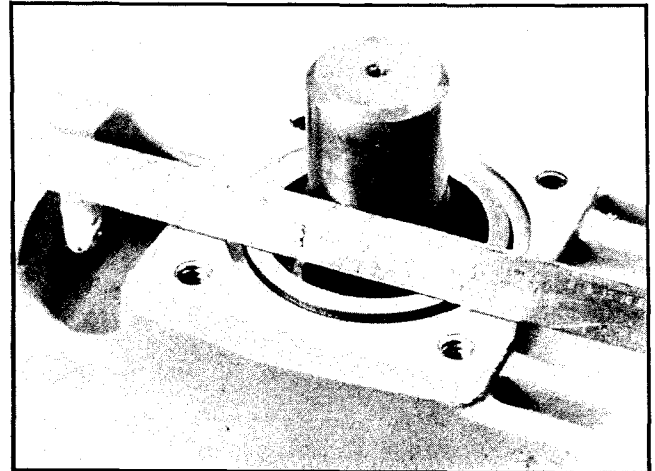

Figure 17. Pintle bearing spacer height with respect to pintle face.
b. Install bearing spacer (34) at the short pintle end.
c. Install "O" ring (33) against spacer (34) into the groove, then install a 0.010 inch shim (32) under pintle cover screws (30) and torque to 175-185 lbf. ft. (237-251 N. m). Early designs used a screw and washer arrangement. These should be torqued to 115-125 lbf. ft. (156-169 N. m).
d. Set housing (8) on its side so the long pintle is up. Install bearing spacer (29) fully in against the bearing race. Install the pintle cover (26), (without shims and "O" ring), then thread four pintle screws (25) through the cover into the housing. Cross torque the screws to 2 lbf. inches while moving the yoke back and forth to align the bearings and races, (keep cover as square to pintle boss as possible.) Continue to cross torque the cover screws until the yoke has a constant drag and the attaching screws are set to 2 lbf. in. torque. Remove the cover being careful not to disturb the yoke bearings and spacer. Measure the height of the spacer with respect to the housing pintle face in two places (180° apart). Use a depth micrometer to perform this measurement. See Figure 17. Average the readings to obtain a nominal value. A 0.007-0.009 inch preload is required on the pintle bearings.